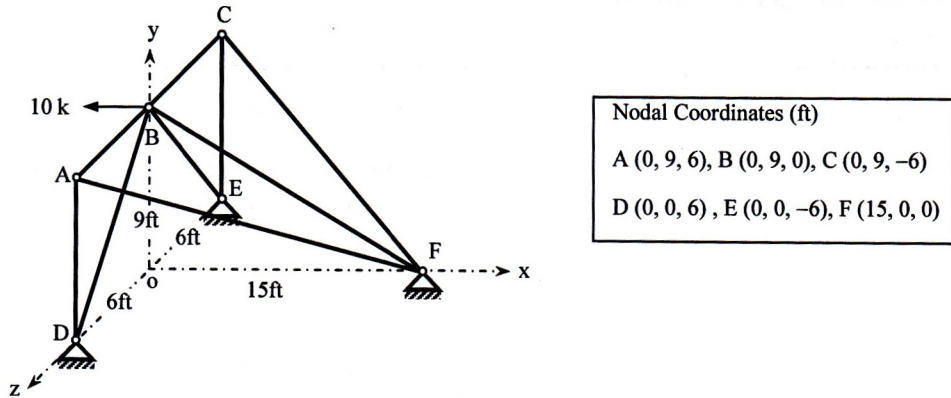

Fig. 5
5. In the three-dimensional truss shown in *Fig. 5*, ignore zero-force members and formulate the stiffness matrix, load vector and write down the boundary conditions [Given: $EA/L = 500 \text{ k/ft}$].